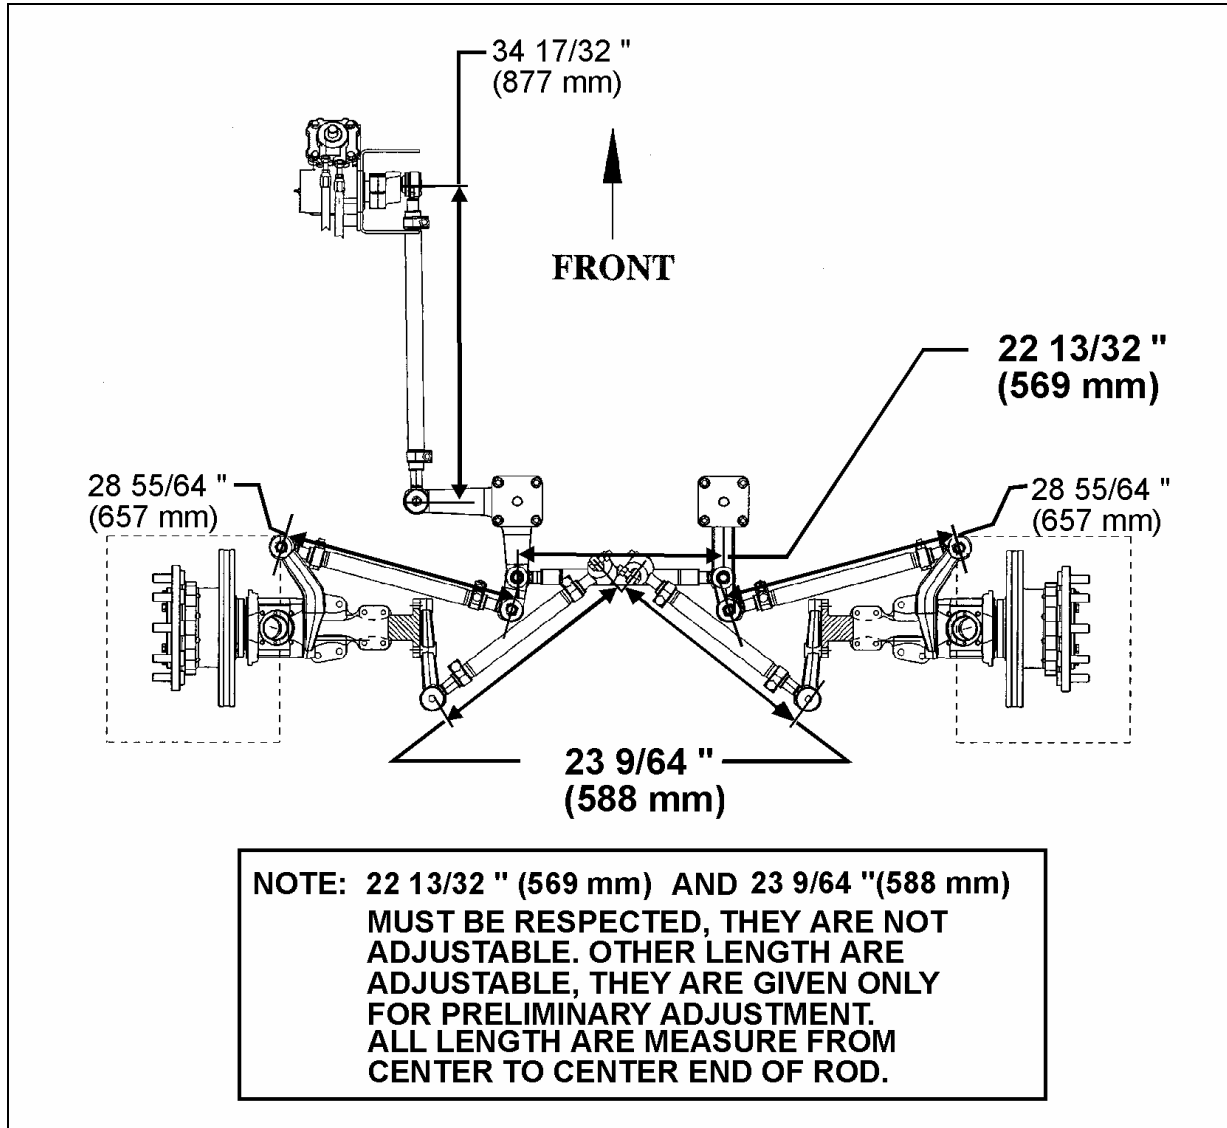

FIGURE 15: STEERING LINKAGE MEASUREMENTS
7. Check if the length of the torque rod is 23 9/64" (588 mm) (Fig. 15). Check if the length of the relay rod is 22 13/32" (569 mm)